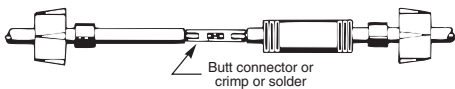

Figure 8
4. Unscrew plastic caps from insulators. Place a cap and a neoprene gasket sleeve on each wire end to be spliced (see Figure 8).
6. Insert wire end into butt connector and crimp (see Figure 8). Be sure to match cable and motor wire colors.